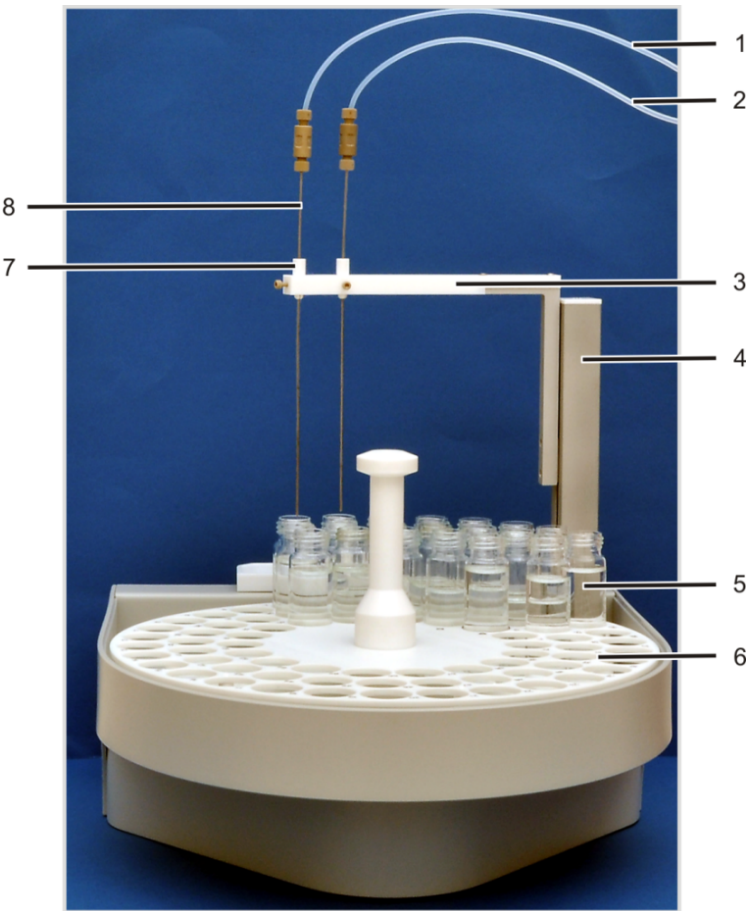

Fig. 32 Layout of the AS vario autosampler
- ▶ For NPOC measurement with parallel purging: Insert one canula each with sleeve in both positions of the canula holder (Fig. 32  52).